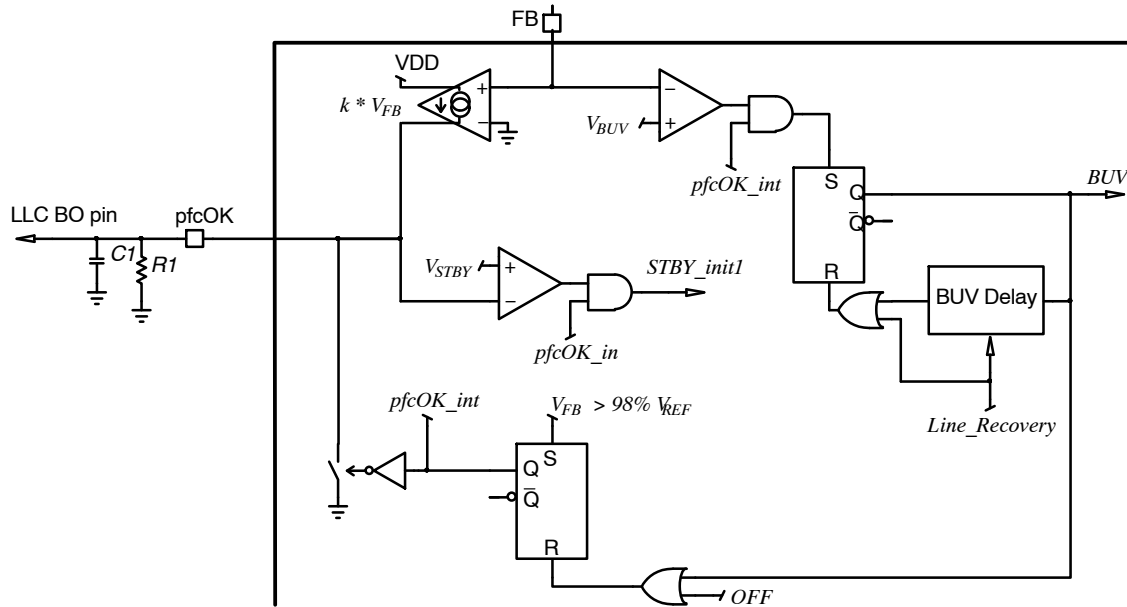

Figure 17. *pfcOK* Block
Practically, the *pfcOK* pin is grounded when the PFC stage enters operation and remains in low state until the output voltage has nearly reached its nominal level (practically when V_{FB} reaches 98% V_{REF}). At that moment, the *pfcOK* pin sources a current proportional to the feedback voltage ($k \cdot V_{FB}$). See Figure 17. Placing an external resistor between the *pfcOK* and GND pins, we obtain a voltage V_{pfcOK} which is proportional to the bulk voltage and can serve as a feedforward signal for the downstream converter. k typical value is 10 $\mu A/V$ so that the *pfcOK* pin typically sources 25 μA when the FB voltage is 2.5 V (regulation level).
The high voltage (HV) pin is a multi-functional pin, which in addition to the startup current source, provides access to the brownout, line sag, line range detectors and X2 capacitor discharge. The brownout / line-sag detector detects too low line levels and the line range detector determines the presence of either 110 V or 220 V ac mains. Depending on the detected input voltage range, the NCP1618 internally adjusts device parameters to optimize the system performance. Line and neutral are diode “ORed” before connecting to the HV pin as shown in Figure 17. The diodes prevent the pin voltage from going below ground.
- Resets the BUV timer. It is because a long line-sag event is likely to cause a BUV detection. When a BUV fault is detected, no restart is possible until the BUV timer has elapsed. If a BUV fault is detected during a line-sag sequence, we want operation to be resumed as soon as the line recovers (see Figure 17).